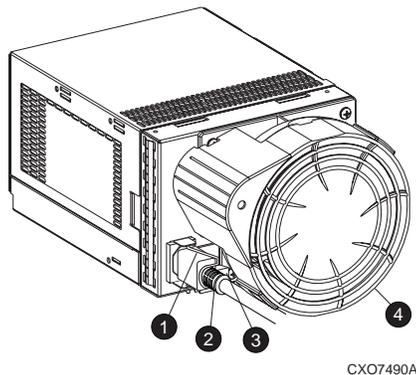

Figure 49 Disconnecting AC power
2. Move the power cord **bail lock 1**, Figure 49, to the left.